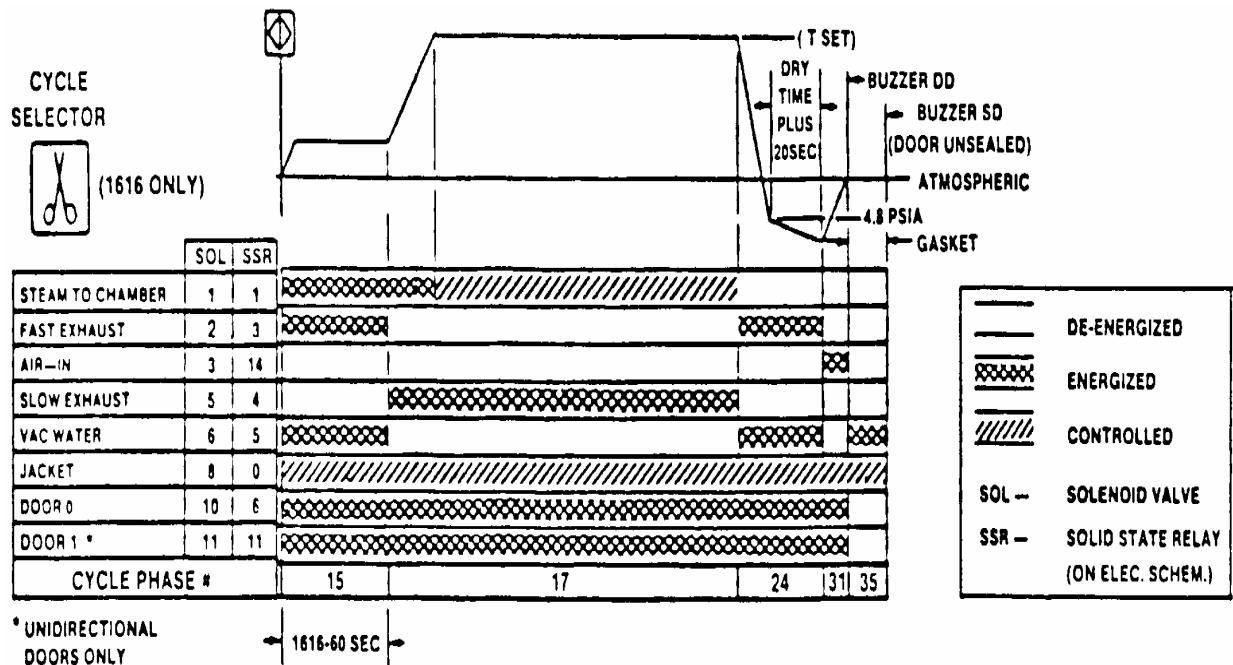

Figure 1-12. Unwrapped instrument cycle (16 x 16 only).
b. Unwrapped Instruments Cycle (16 x 16 only). Refer to figure 1-12.